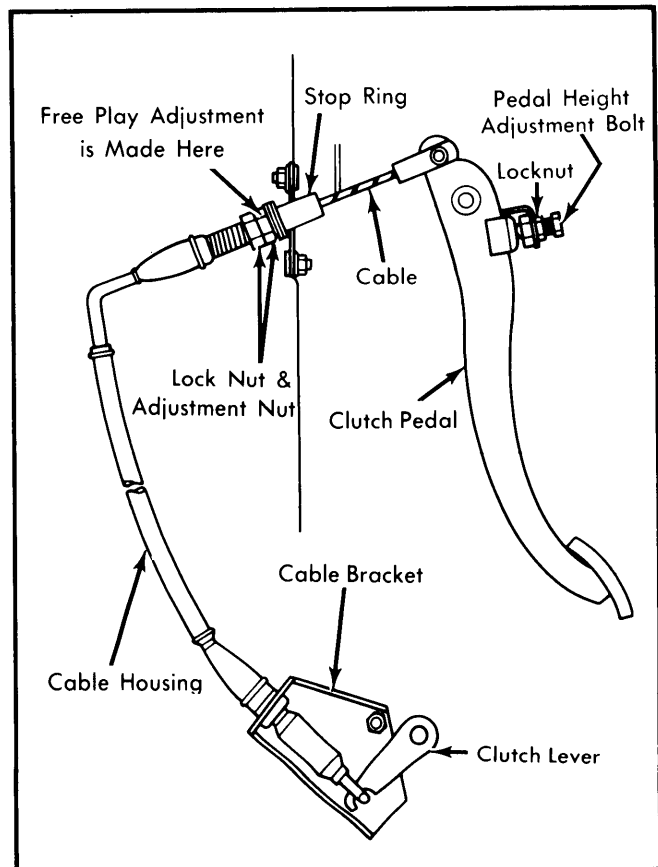

Fig. 2 Installed View of Clutch Cable with Detail of Items to Disconnect for Cable Removal. Illustration Also Shows Pedal Height Location.
2) Push cable through stop ring into engine compartment. Disconnect cable at clutch lever. See Fig. 2. Remove retainer ring at bracket. Pull cable housing from bracket and remove.
Loosen lock nut (Fig. 2) and turn adjusting bolt until pedal height is approximately 7.48" (190 mm). Tighten lock nut. Check clutch pedal free play.